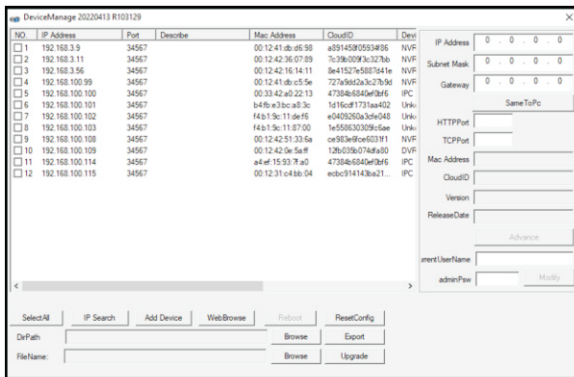

Figure 3. Display of IP Camera Addresses
- IP Camera addresses will be displayed on the device list table. (See Figure 3)